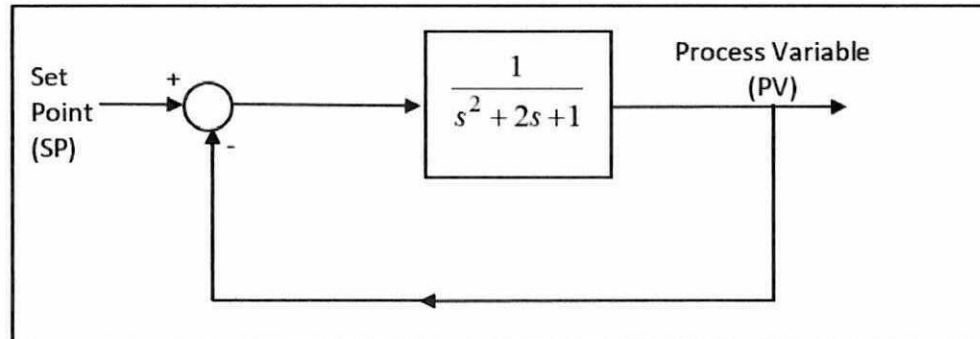

Figure Q6(b)
- (b) **Figure Q6(b)** shows unity feedback system use by YokNgombeNgombe Sdn. Bhd. for controlling temperature of steam distillation process. For improvement, the company plan to implement PID controller for controlling the temperature of the process.